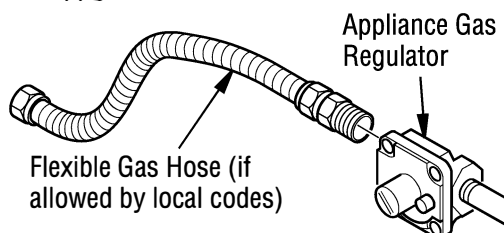

Figure 11 - Attaching Flexible Gas Hose to Appliance Gas Regulator
1. Apply pipe joint sealant lightly to male threads of the 3/8 NPT side of gas fitting (provided) and connect to inlet side of gas control. Remove gas fitting from flexible gas hose (provided) before connecting to gas fitting (see **Figure 11, Page 13**).